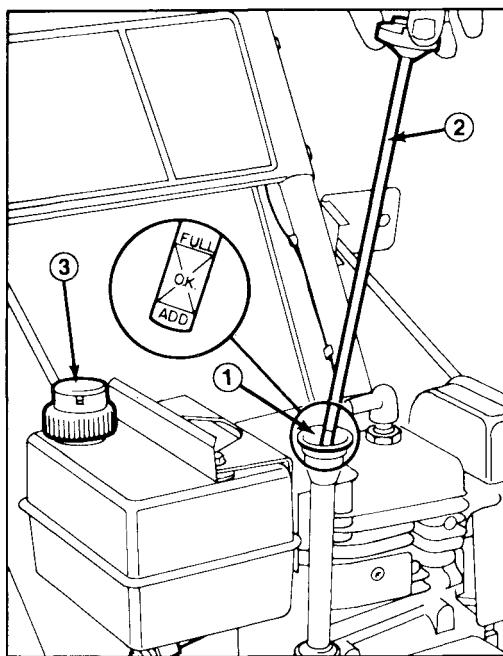

Figure 13
3. Remove dipstick from crankcase (Fig. 13).
4. Slowly, pour 21 ounces (0.621 l) of SAE 5W30 or SAE 10 oil into the filler hole (Fig. 13). The engine uses only high-quality detergent oil having the American Petroleum Institute – API – “service classification” SC, SD or SE.
1. Clean area around the fuel tank cap (Fig. 13). Remove cap from fuel tank and fill tank to within 1/2 inch (13 mm) from the top with gasoline. Reinstall fuel tank cap (Fig. 13).